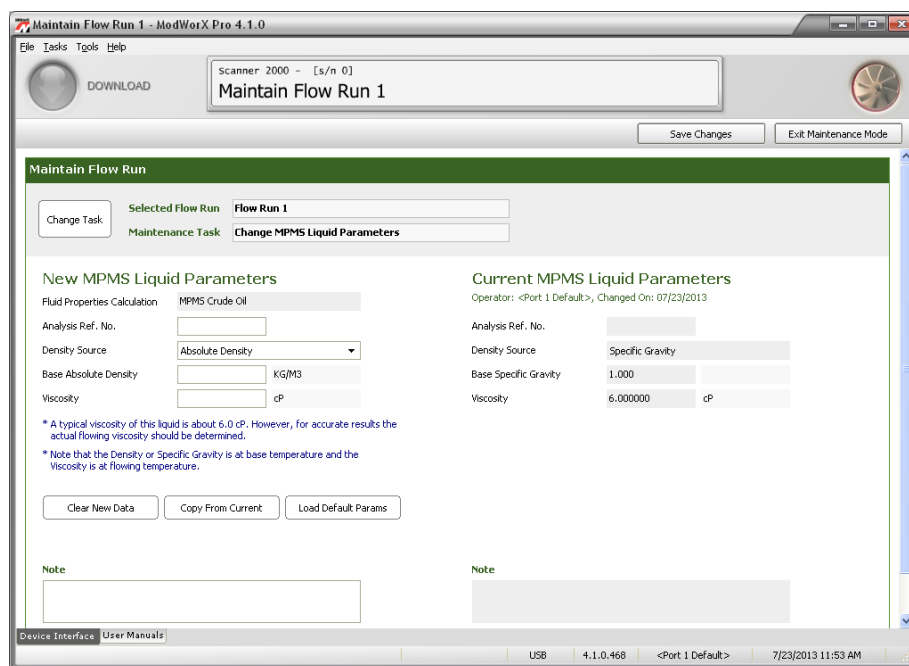

Figure 11.12
- b. Click **OK** to save the settings and return to the Maintain Flow Run screen (Figure 11.12, page 164).